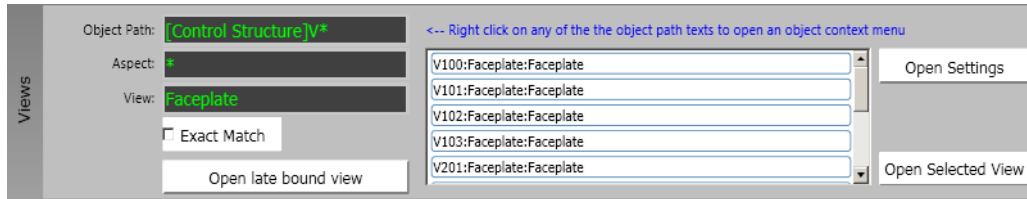

Figure 174. Views
3. Drag and drop **Text** primitives (**Toolboxes > Graphic Primitives**) into the edit panel. Label the primitives as **Object Path**, **Aspect**, and **View** as shown in Figure 174.